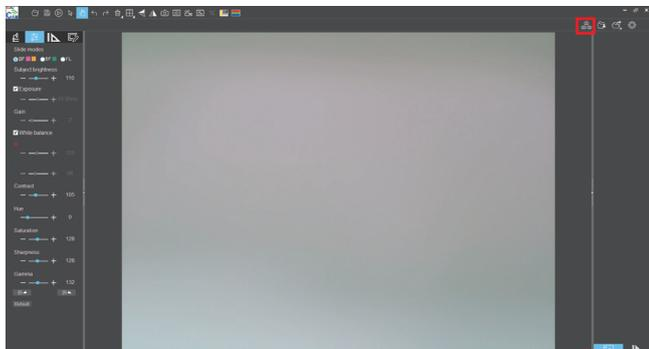

Figure 1
- (1) Connect a Windows PC or laptop that supports 5G WiFi IEEE802.11ac protocol to the same local area network as the camera.
- (2) Install and run the software KoPa Capture Pro on the Windows PC or laptop.
- (3) When there is only one network camera in the local area network, the software can automatically get the live image from the camera.
- (4) When there are multiple network cameras in the same local area network, click the icon "📷" in the upper right corner of KoPa Capture Pro (Figure 1), the list automatically shows all cameras in the current local area network (Figure 2), select a camera as needed, support switching midway at any time.